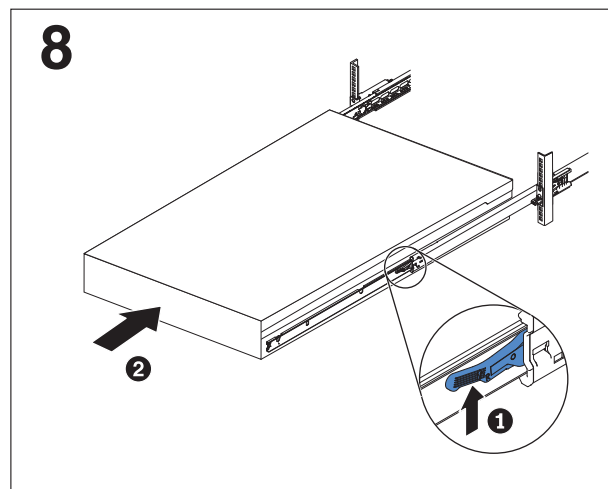

Figure 36. Raising the SAN Volume Controller 2145-DH8 locking levers of the slide rails of the rack
2. Lift the locking levers (**1** in Figure 36) on the slide rails and push the server **2** all the way into the rack until it clicks into place.